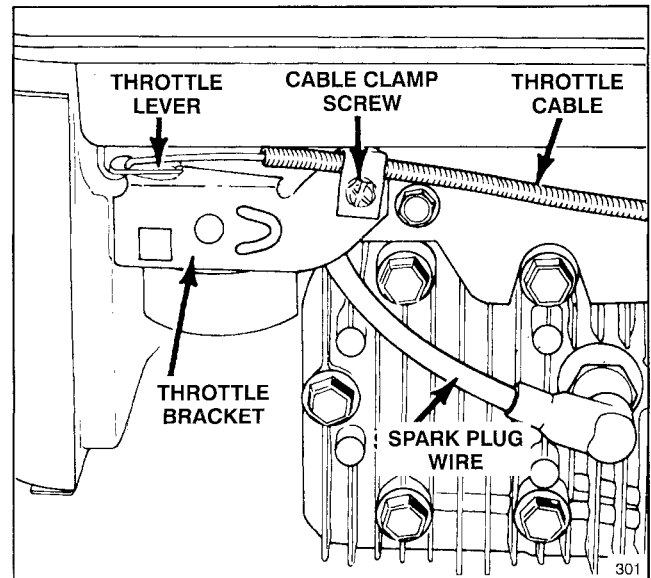
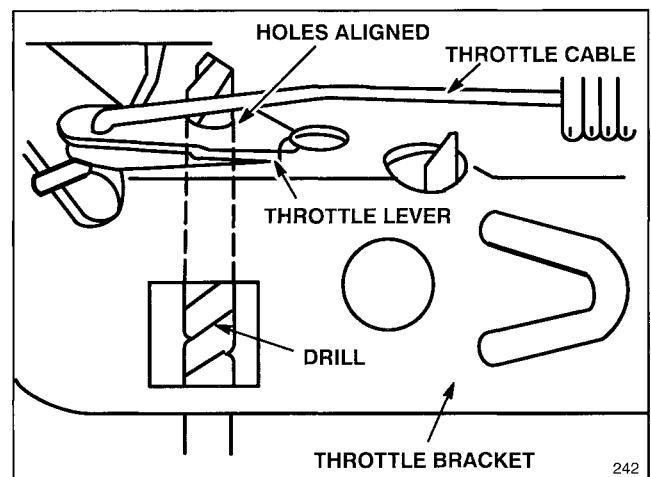

Figure 17
Figure 18
1. Stop engine and pull wire off spark plug (Fig. 17).
3. Loosen cable clamp screw until throttle cable slides (Fig. 17). Align holes in throttle lever and throttle bracket using a $\frac{1}{8}$ " diameter drill (Fig. 18). Tighten cable clamp screw to lock adjustment in place.
1. Stop the engine. Pull the wire off the spark plug (Fig. 17).